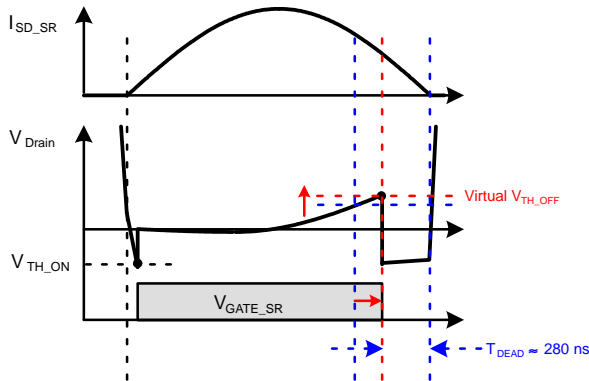

Figure 24. Dead Time Control to Maintain
In FAN6248HC(D) version, if a dead time T_{DEAD} is larger than 280 ns of t_{DEAD_H} , as shown in Figure 23, V_{offset} is decreased by one step in next switching cycle. As a result, the dead time is decreased by increase of virtual V_{TH_OFF} , and becomes close to t_{DEAD_H} , as shown in Figure 24. If the dead time is smaller than t_{DEAD_H} , the dead time is increased by the virtual V_{TH_OFF} decrease. Thus, the dead time is maintained at around t_{DEAD_H} regardless of parasitic inductances.